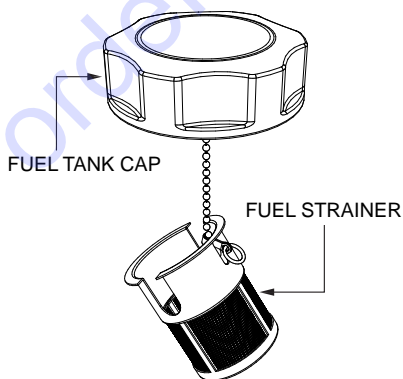

Figure 58. Fuel Strainer
3. Remove, inspect, and clean the fuel strainer (Figure 58) with solvent.